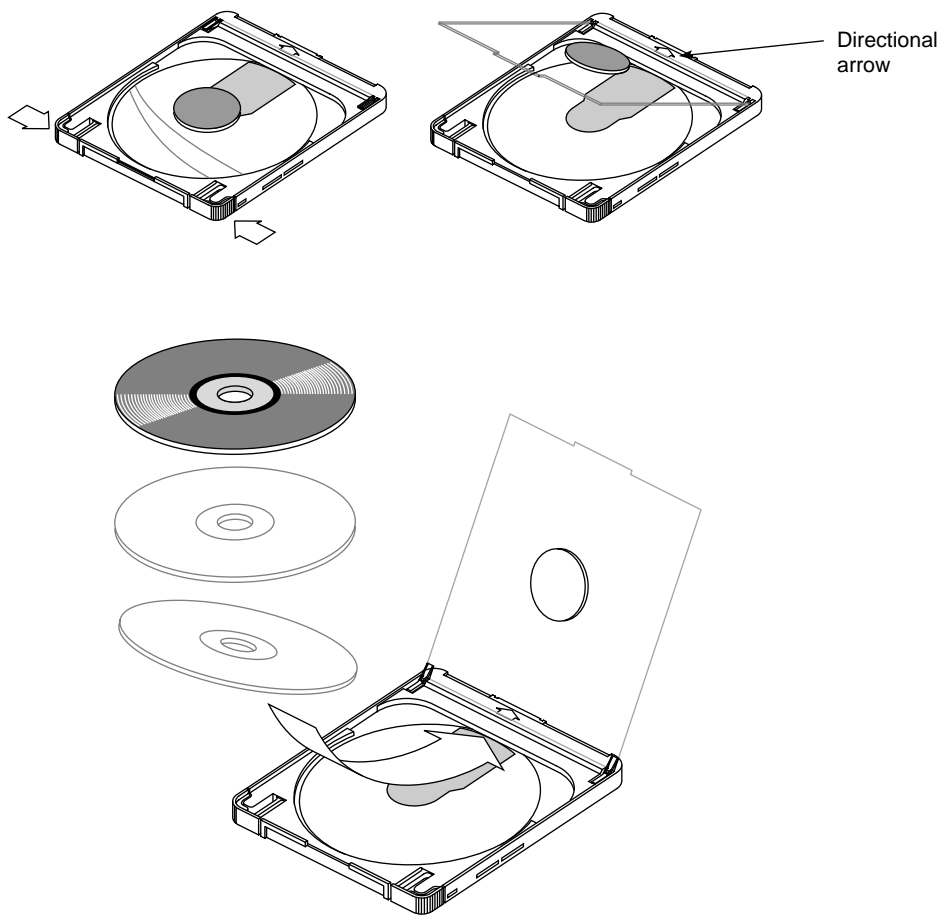

Figure 4-6 Loading a CD Into the Caddy
5. Insert the CD into the caddy, as shown in Figure 4-6. The CD should fit under the lip at the end of the caddy.